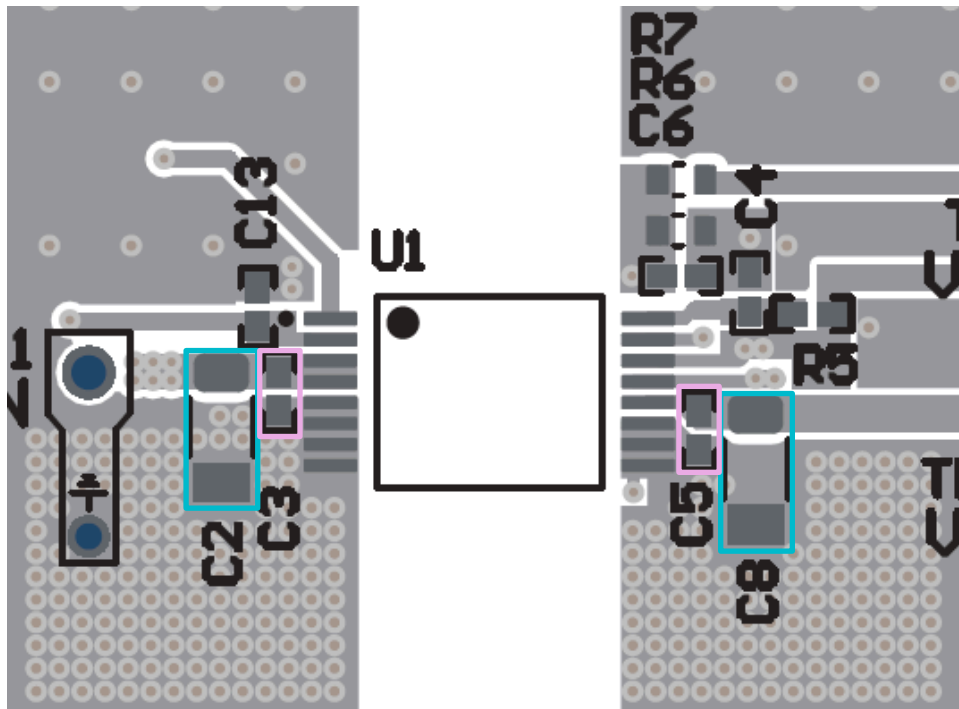

Figure 8-5. VIN (C2, C3) and VDD (C5, C8) Capacitors
- b. Place the bulk VIN capacitor(s) (C2) as close as possible and parallel to the 0.1 μ F high frequency bypass capacitor (C3) and on the same side of the PCB as the IC as shown in Figure 8-5.
2. Power good pin decoupling capacitor: The decoupling capacitor should be placed close to pin 2 (power good pin) and on the same side of the PCB as the UCC34141-Q1. Refer to C13 placement shown in Figure 8-5.
- b. Place the bulk VDD-COM capacitor (C8) as close as possible and parallel to the 0.1 μ F high frequency bypass capacitor (C5) and on the same side of the PCB as the IC as shown in Figure 8-5.